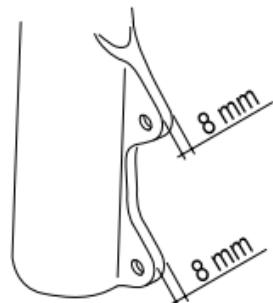

Fig. 3
**Warning:** When the thickness of the attachment placed on the fork is smaller and/or greater than 8 mm (fig. 3), replace the supplied fixing screws with new ones having a length equal to the difference.